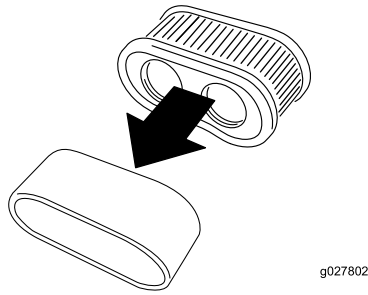

Figure 41
- Remove the foam element from the paper element (Figure 41).